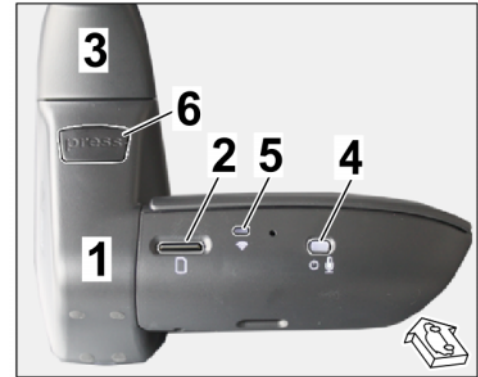

Figure 21
- 5.1.1 Remove micro SD memory card (32 GB, ⇒ *Figure 21 -2-*) from front camera card slot.
- 5.1.2 With the ignition switched on, push the front camera (dashcam ⇒ *Figure 21 -1-*) into the retainer plate on the windshield (⇒ *Figure 21 -3-*)
- 5.1.3 Press power button (⇒ *Figure 21 -4-*) for 10 seconds until you hear the second double-beep.
- 5.1.4 The front camera (dashcam) starts in Dealer mode: WiFi LED (⇒ *Figure 21 -5-*) lights up "yellow".